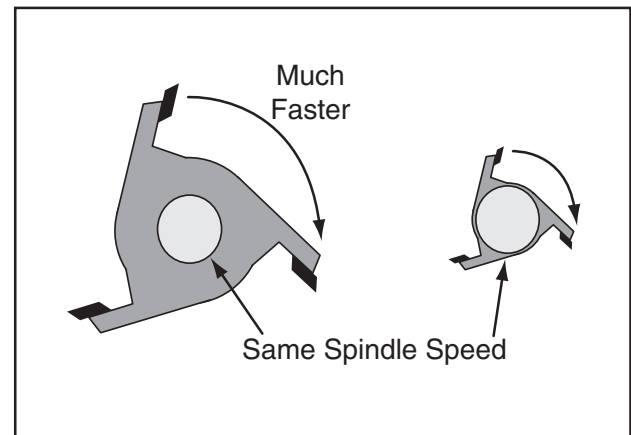

Figure 20. Relative speeds of cutting edges between large and small cutters.
- The cutting edges of large cutters travel faster than those of smaller cutters at the same spindle speed, as shown in **Figure 20**. Use the slower speed for large cutters.